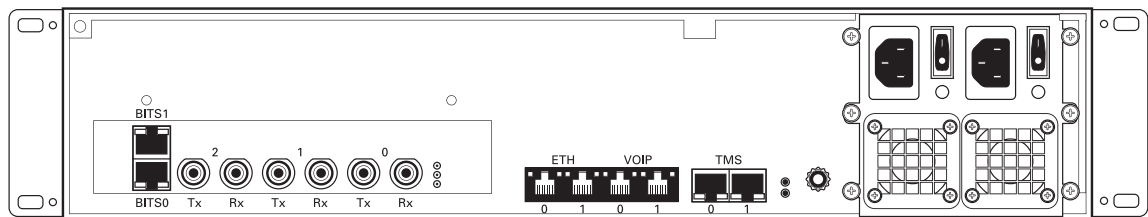

Figure 2.6 3200-DS3 Interface to the PSTN
A 3200-DS3 with 3 sets of BNC connectors enables the connection to DS3 lines. See figure 2.6 on page 23.
1. Start with the Dual BNC port pair #0 (right-most) as shown in figure 2.6 on page 23. Connect one pair of BNC cables between this port and the DS3 line.